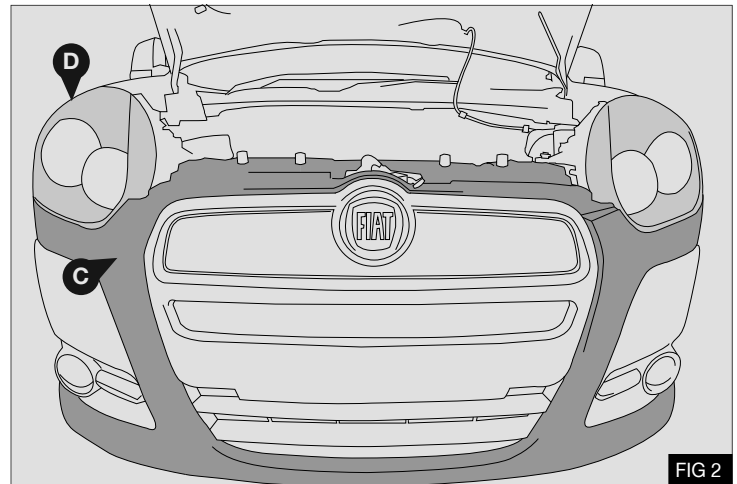

FIG 2
3. Front bumper (C) 8 x M6 bolts and 10x screws - Fig 2
4. Head light (D) 3 x M6 bolts and disconnect wiring harness - Fig 2